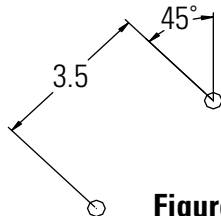

Figure 1
Step 1. Mark off Mounting Centers (Fig. 1)
- A. Mark required distance from single gang j-box rotated 90° to mounting center and drill two (2) holes (diameter to be determined by method of support) 45° from horizontal and 3 ½" apart. (Refer to page 1 for dimensions)